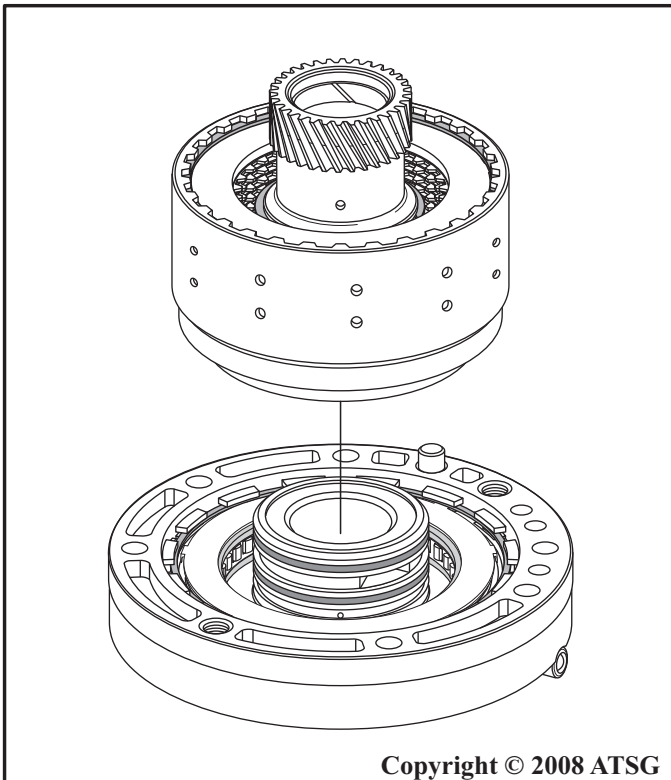

Figure 153
13. Install the completed direct clutch housing onto the completed output shaft support, as shown in Figure 153.